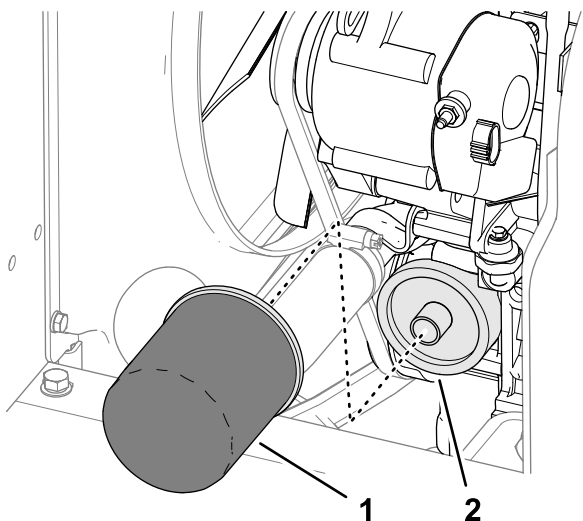

Figure 67
5. Remove the oil filter (Figure 67).